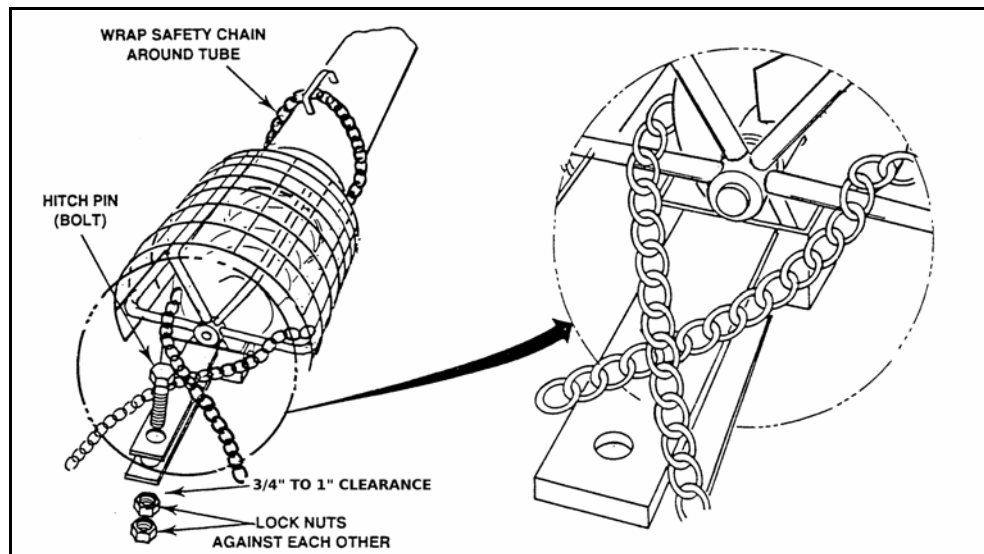

Figure 4.1
3. Place and secure hitch pin and safety chain. The safety chain should be threaded through handle on the lower tube and wrapped around auger tube before attaching to the towing vehicle (Figure 4.1).
Important: *Use a type of hitch pin (see Figure 4.1) that will not allow auger to separate from towing vehicle.*
Important: Use a type of hitch pin (Figure 4.1) that will not allow auger to separate from towing vehicle.